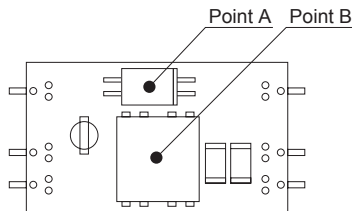

Fig.8.7 Temperature Measuring Points in the case of Forced Air Cooling
(3) Temperature Measuring Points in the case of Forced Air Cooling (1m/s)
① SU3
■ In the case of forced air cooling, please have sufficient ventilation to keep the temperature of point A in Fig.8.7 at 115°C or below and that of Point B at 120°C or below.